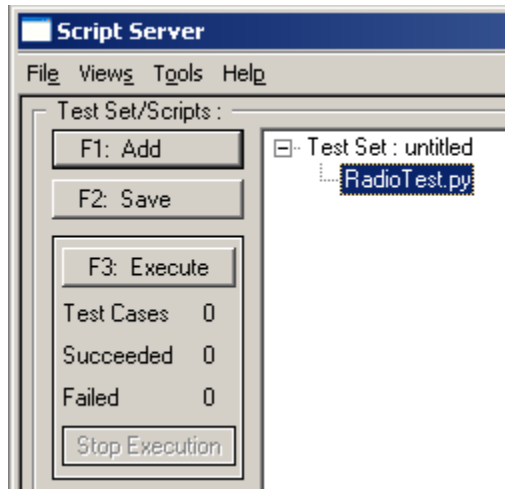

Figure 23 Script Server Window (Run Scripts/Test Sets)
- As shown in Figure 23, from the “Script Server” window, highlight the “RadioTest.py” file and click on the “F3: Execute” button to start the selected Scripts/Test Set.